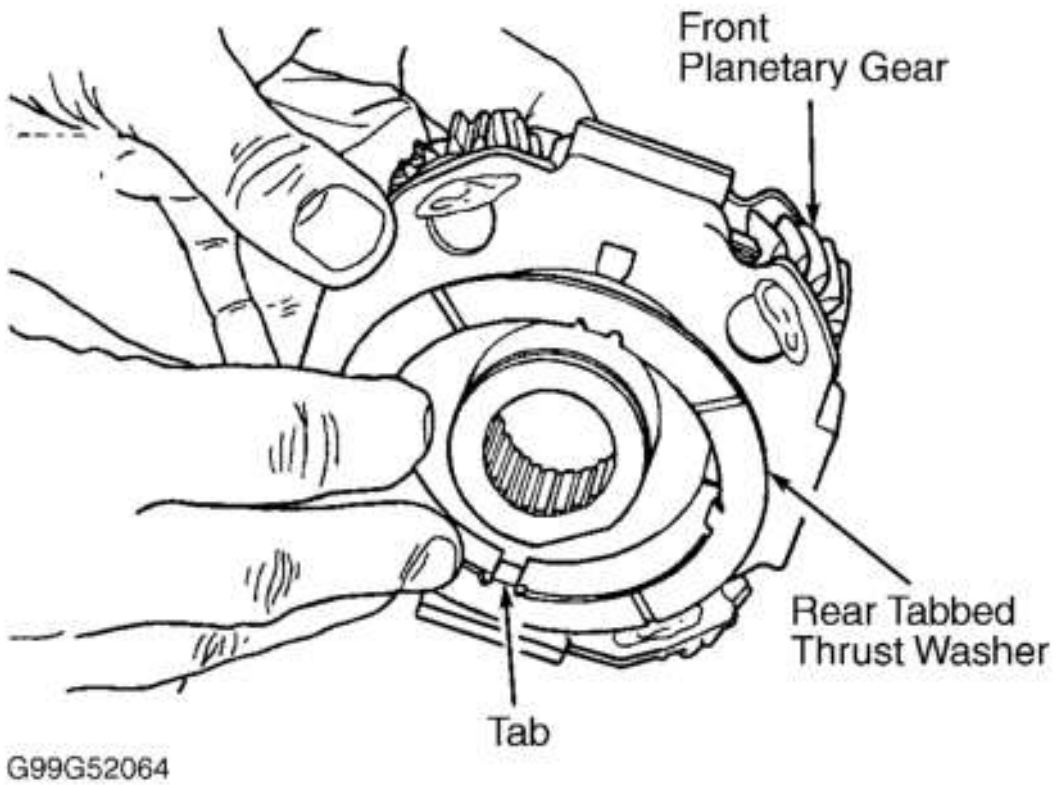

Fig. 26: Installing Tabbed Thrust Washer
7. Install sun gear and driving shell on intermediate shaft. Install planetary thrust washer on rear of front planetary gear. Ensure tabs on thrust washer engage with slots on front planetary gear. See **Fig. 26**.